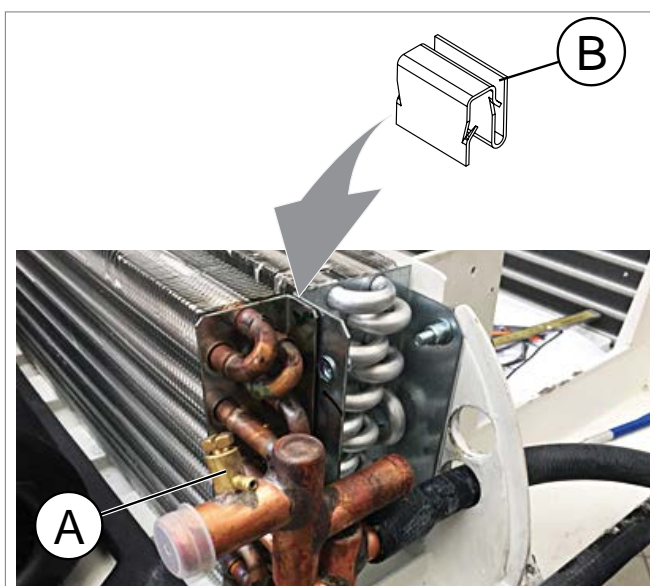

Fig. 33: Left side heating element with valve
The valve must be on top Fig. 33 Pos A
- Fixate the heating elements with clips Fig. 33 Pos B (4x)